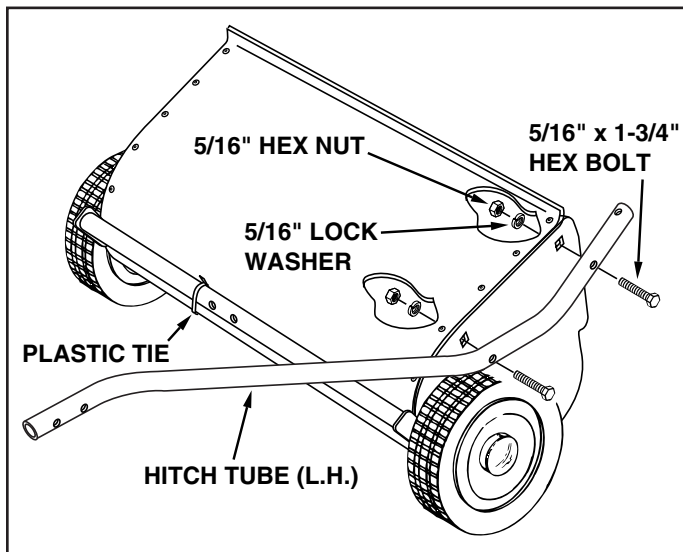

FIGURE 1
1. Cut off the plastic tie holding the height adjustment tube in place. See figure 1.
2. Assemble the R.H. and L.H. hitch tubes to the sweeper housing using four 5/16" x 1-3/4" hex bolts, 5/16" lock washers and 5/16" hex nuts. **Do not tighten yet.** See figure 1.